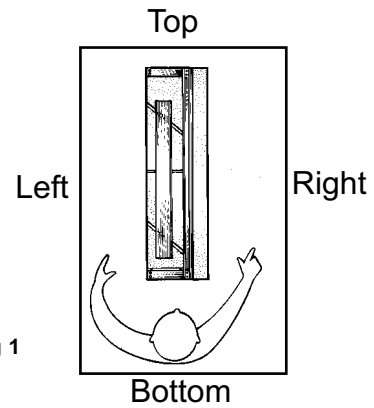

Fig 1
The Procedure detailed in the following instructions refer to the right and left side, and the top and bottom of the machine as shown. **Fig . 1**
4. Hook the Straight Cutting Head onto the Guide Rail past the end of the board to be cut. Grasp the handle as shown in the picture and pull the Straight Cutting head towards you. Keep constant downward pressure on the Straight Cutting head and the Guide Rail as you make your cut. **Fig. 1**
3. Using a pencil, mark a line along the full length of the matboard using the Guide Rail as a guide. **Fig 1.** Repeat this for remaining three sides.
1. Lock the Mat Guide at the 2" mark on the scale. **Fig. 1**